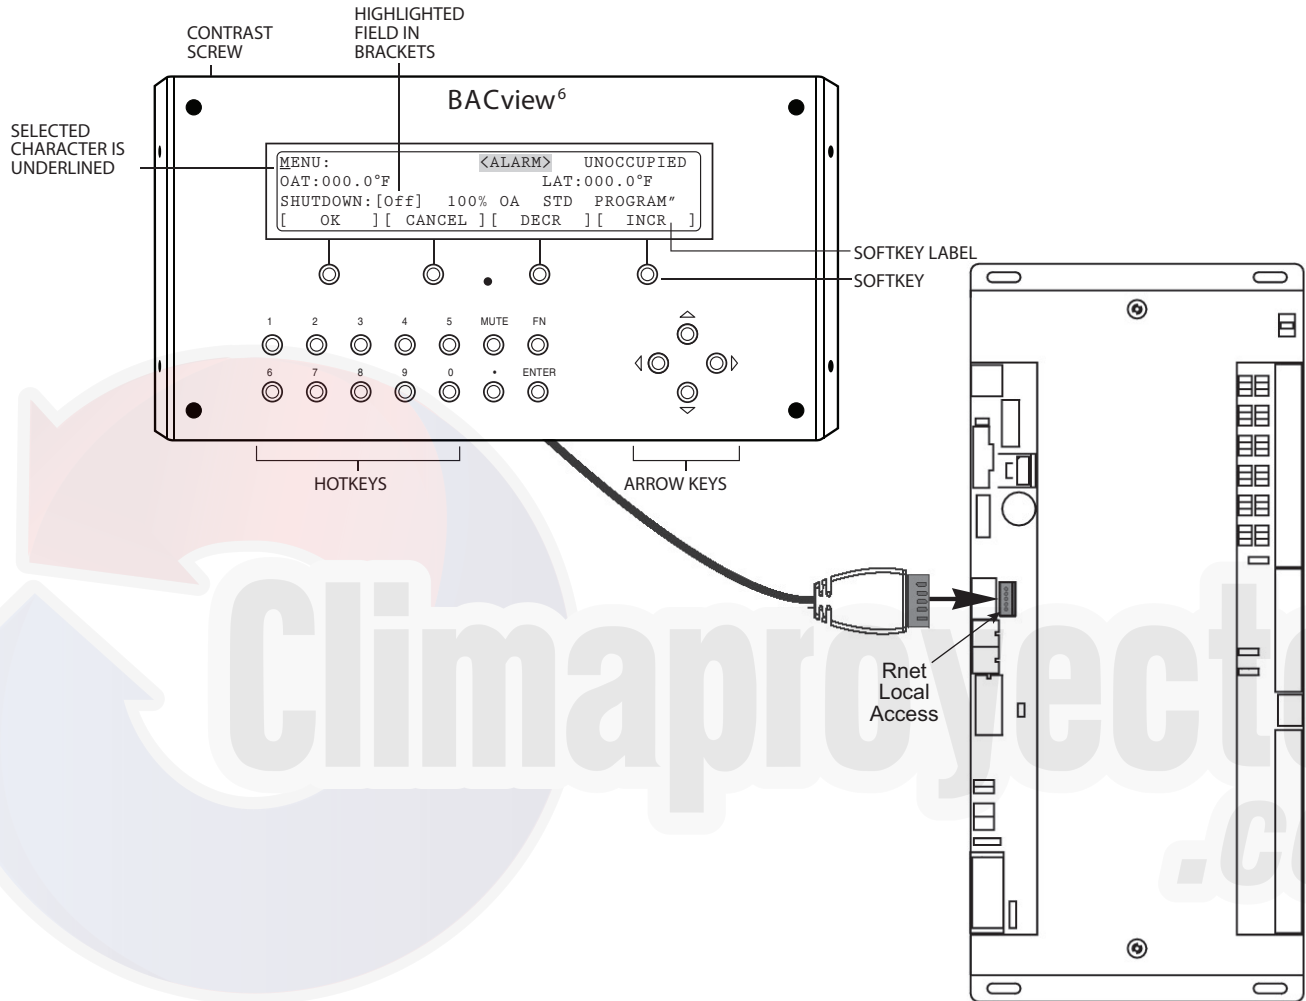

Fig. 18 — BACview Connection to Unit Controller
Step 12 — Configure Controls — The unit controller is pre-configured with default set points as detailed below. If changes to the set points are desired, this may be accomplished via BACview display or by using a computer equipped with Virtual BACview. See Fig. 18. The password is 1111. See the Controls and Troubleshooting Book.